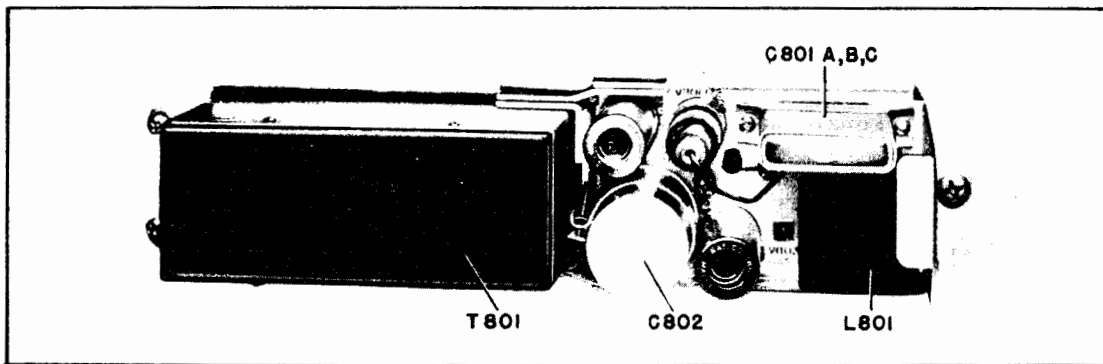

Figure 7-3. Converter Power Supply Chassis, Top View
c. POWER SUPPLIES.—See Figures 7-3 to 7-6 inclusive. First check the resistance values as given in Table 7-6 for the Converter Power Supply and Table 7-7 for the Comparator Power Supply. Measure voltages only when the Power Supply is delivering normal load. The proper load voltages are indicated on the schematic and wiring diagrams, Figures 7-23 and 7-24, for the Converter Power Supply and Figures 7-25 and 7-26 for the Comparator Power Supply.